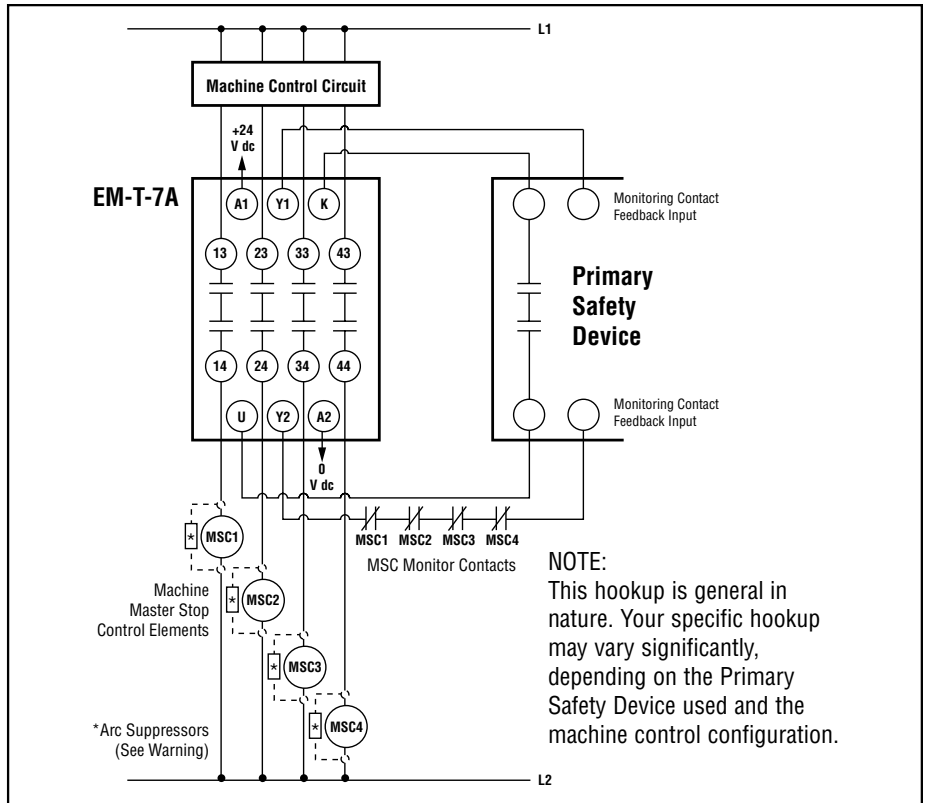

Figure 3. Generalized EM-T-7A Hookup for One-Channel Control
The model EM-T-7A Extension Module provides additional forced-guided (positive-guided) relay contacts for a Primary Safety Device, such as an E-stop Safety Module or a two-hand-control module. Controlled by the safety outputs of the Primary Safety Device, the EM-T-7A Extension Module provides four redundant outputs. These outputs may be connected to control-reliable machine power interrupt circuits. Each of the four Extension Module outputs is a series connection of two forced-guided relay contacts (K1 and K2 in Figure 3).
The Extension Module offers an output circuit at terminals Y1 and Y2 which provides K1 and K2 contact status information for connection to the monitoring input of the Primary Safety Device (see Figure 3). This monitoring circuit prevents the Primary Safety Device from being reset if contacts of either K1 or K2 of the Extension Module fail in a shorted condition.
- 2) ALWAYS connect terminals Y1 and Y2 of this Extension Module to the monitoring input of the Primary Safety Device that controls it (see Figure 3).**
One-Channel Control (Figure 3)
The hookup diagrams in Figures 3 and 4 show a generic connection of the four safety output channels of the Extension Module to Master Stop Control Elements MSC1 through MSC4. A Master Stop Control Element is defined as an electrically powered device, external to the Extension Module, which stops the machinery being controlled by immediate removal of electrical power to the machine and (when necessary) by applying braking to dangerous motion (reference ANSI B11.19, section 5.2: “Stop Control”). **To achieve control reliability, two redundant MSCs are required to control each machine hazard.**
To satisfy the requirements of control reliability, all MSCs must offer at least one normally closed forced-guided monitor contact. One normally closed monitor contact from each MSC is wired in series to the monitoring contact feedback input of the Primary Safety Device, as shown in Figures 3 and 4. In operation, if one of the switching contacts of any MSC fails in the shorted condition, the associated monitor contact will remain open. As a result, it will not be possible to reset the Primary Safety Device.
NOTE: The Extension Module can only be used safely when its operation is controlled via an appropriate Primary Safety Device, connected to the Extension Module according to wiring diagrams shown in Figure 3 or 4.
- 3) Confirm proper connection of the Extension Module to the controlling Primary Safety Device according to the wiring diagram (see Figures 3 and 4).